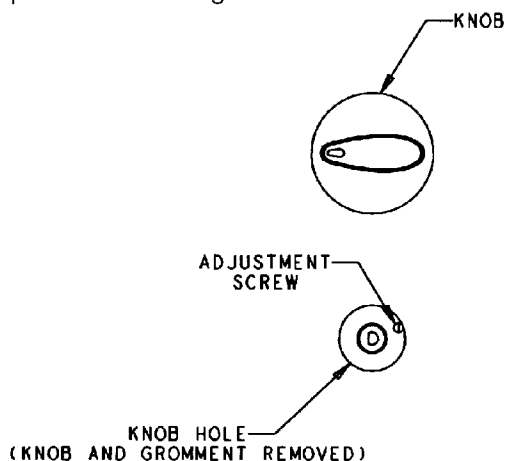

FIGURE 12
C. LOW FLAME ADJUSTMENT (See figure 12)
3. Locate the valve adjustment screw. If necessary align hole in switch cover with adjustment screw. See figure 12.
4. Locate the valve adjustment screw. If necessary align hole in switch cover with adjustment screw. See figure 12.